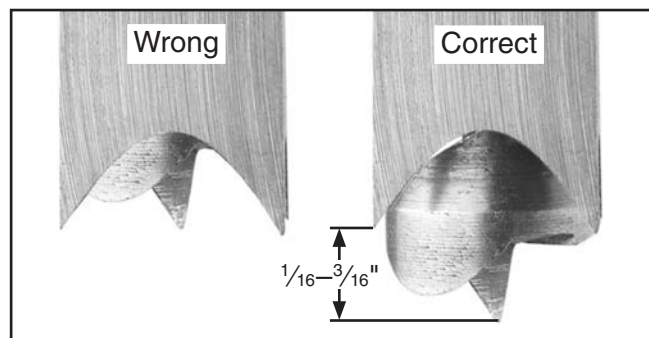

Figure 15. Drill bit extension.
- With precision square still in place, loosen chuck and position bit so it extends $\frac{1}{16}$ – $\frac{3}{16}$ " beyond chisel (see **Figure 15**), then tighten chuck and lock screw to secure bit setting.